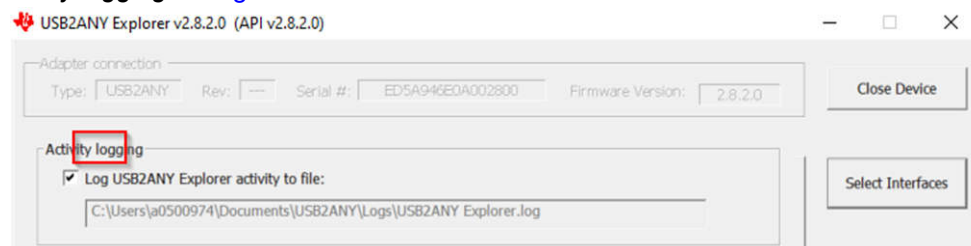

Figure 4-6. TIDA-020075 USB2ANY Explorer Test Setup1
2. Click the *SPI* button beside debug. If the software glitches and does not show the SPI button, click the area between *Activity logging* as Figure 4-6 shows.